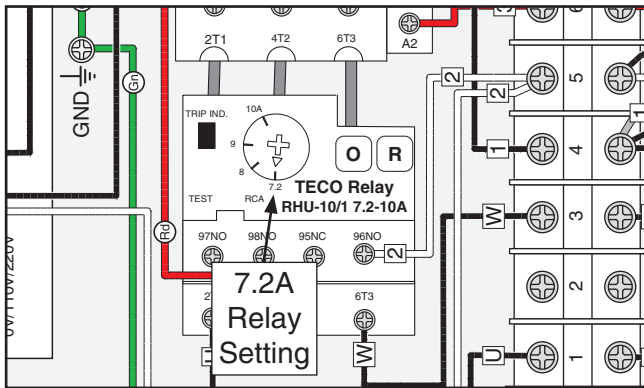

Figure 11. Model G0806 overload relay set to 7.2A.
- Turn the dial on the new overload relay to 7.2A for 220V (see **Figure 11**).